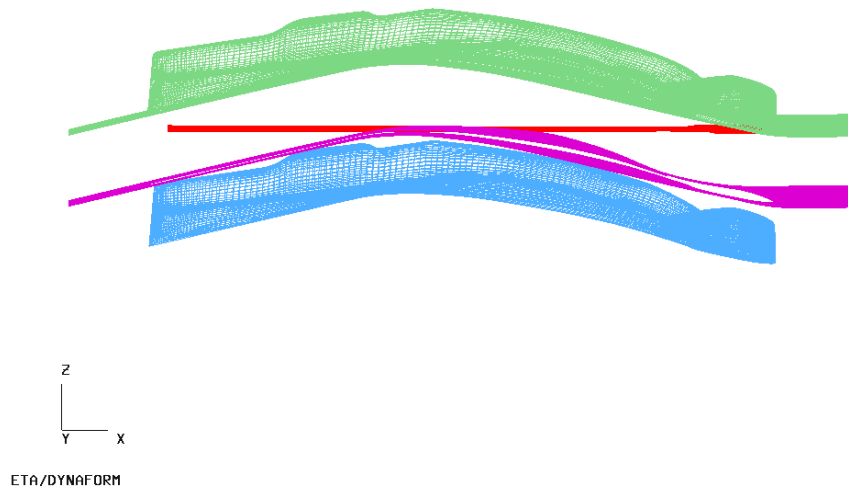

Figure 1.24 The relative position of tools and blank after positioning
5. Click  icon on the **Icon** bar to display the relative position of tools and blank(s), as shown in Figure 1.24.